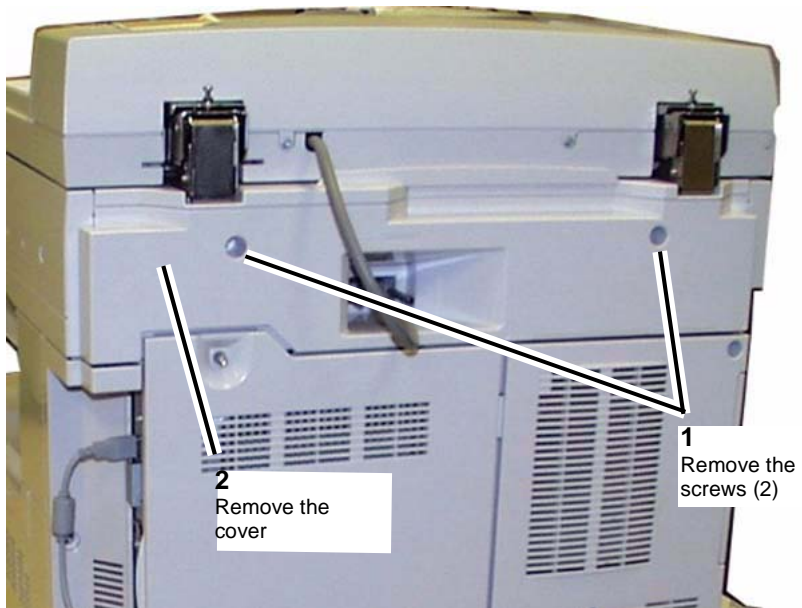

Figure 3 Removing the Rear Upper Cover
3. Remove the Rear Upper Cover. (Figure 3)